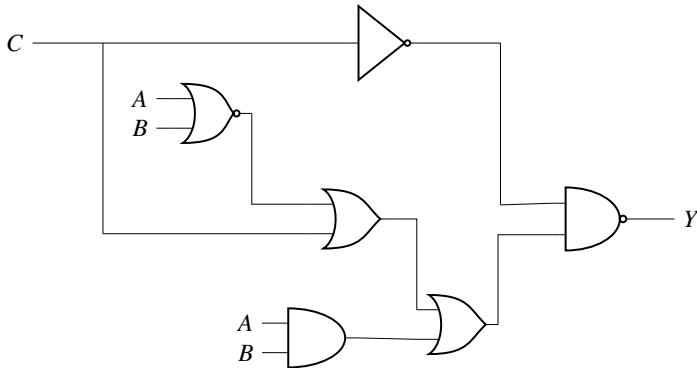

Fig. 3.33
52. In the circuit shown in Fig. 3.33, if  $C = 0$ , the expression for  $Y$  is